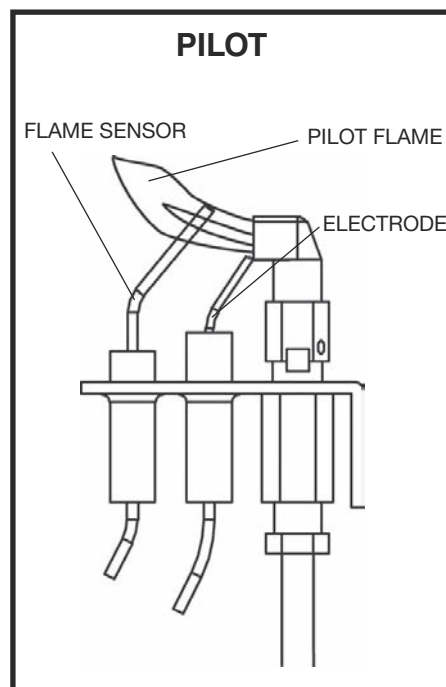

Figure 121: SIT pilot assembly.
- b) Check the pilot system for proper flame size and operation. Clean pilot free of soot, dust or any other deposits (Figure 121 and Figure 122). Have a qualified service person adjust the pilot flame.